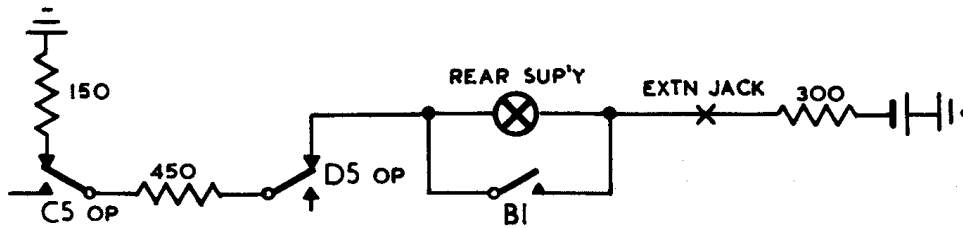

FIG. 13. SUPERVISION BEFORE EXTENSION ANSWERS.
- 6.3 Exchange Call Connected to Extension. If the caller requires an extension, the operator takes the rear cord of the same pair of cords, inserts the plug into the required extension jack, and momentarily operates the non-locking Ring Rear key (KRR). Plugging into the extension jack operates the jack springs, disconnecting the extension call lamp circuit and connecting battery via 300Ω to the sleeve circuit of the rear cord. The rear supervisory lamp glows until the extension answers (Fig. 13). The operator may restore the Speak key at this stage or remain across the connection until the extension answers.